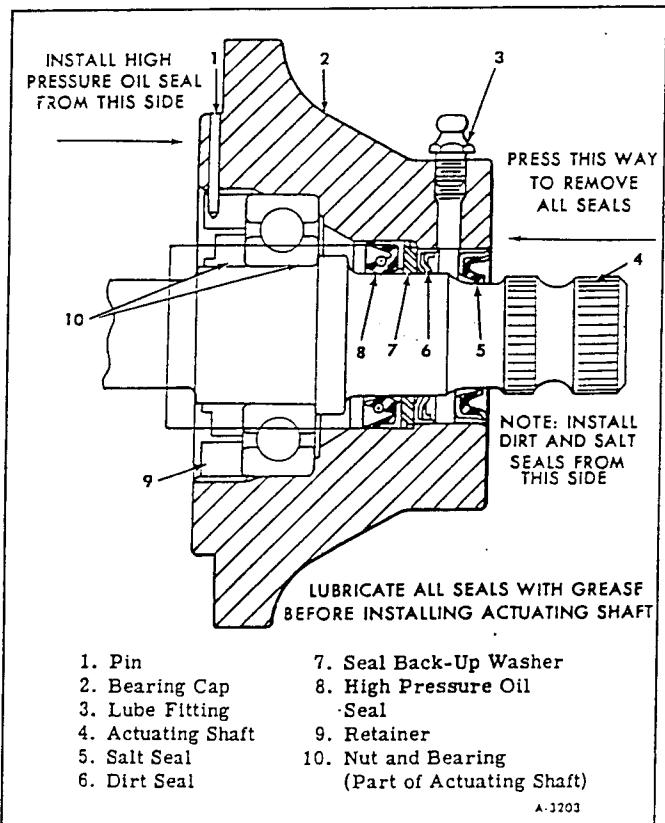
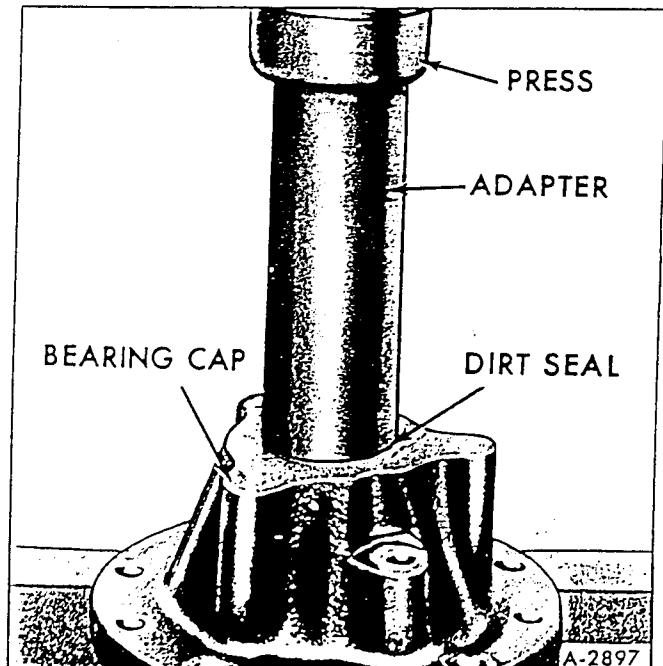

Figure 19 – Removing Seals from Bearing Cap
Figure 31 - Installing Dirt Seal in Bearing Cap
oil seal, seal back-up washer, dirt seal, and salt seal out of bearing cap from direction shown in figure 19.
6. Install back-up washer in bearing cap with undercut positioned as shown in figure 19.
b. Position bearing cap on a press and evenly install dirt seal (fig. 31) (with lip out) from direction shown in figure 19 until it rests against the back-up washer.
d. Turn bearing cap over and evenly install high pressure oil seal (figs. 19 and 30) until it rests against back-up washer.